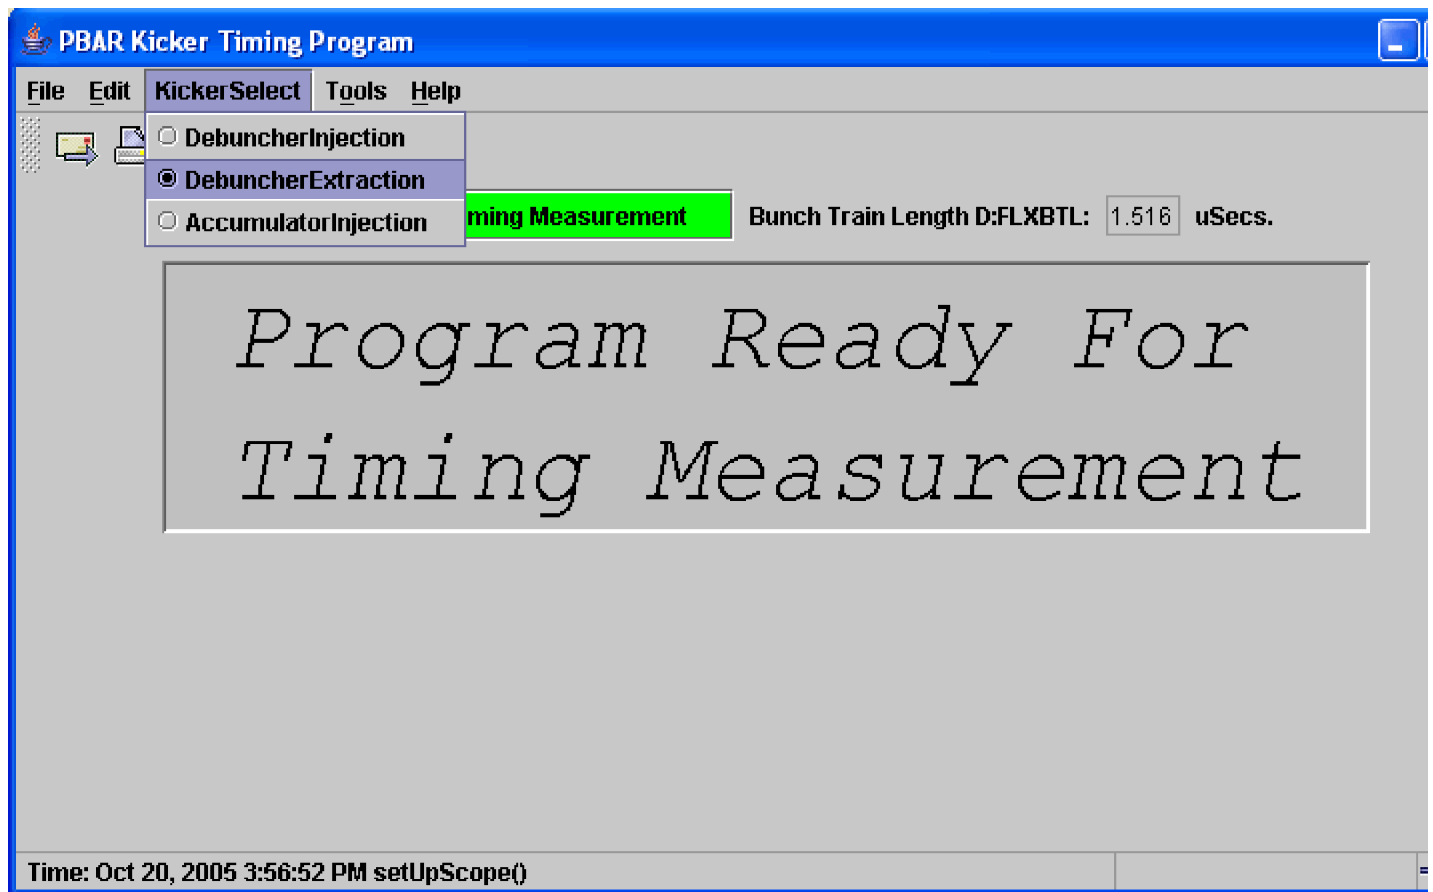

Figure 26:
- From the Java Kicker Timer Program application, go to "KickerSelect" -> "DebuncherExtraction" as shown in Figure 26.